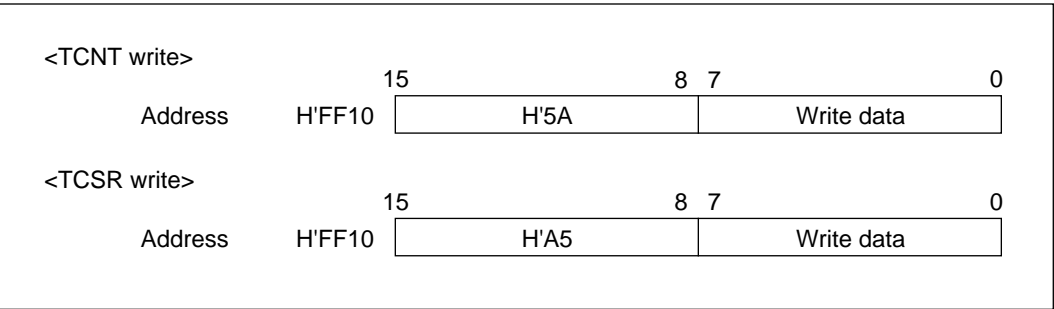

Figure 13-2 Format of Data Written to TCNT and TCSR
(1) **Writing to TCNT and TCSR:** These registers must be written by word access. They cannot be written by byte instructions. Figure 13-2 shows the format of data written to TCNT and TCSR. TCNT and TCSR both have the same write address. The write data must be contained in the lower byte of the written word. The upper byte must contain H'5A (password for TCNT) or H'A5 (password for TCSR). This transfers the write data from the lower byte to TCNT or TCSR.